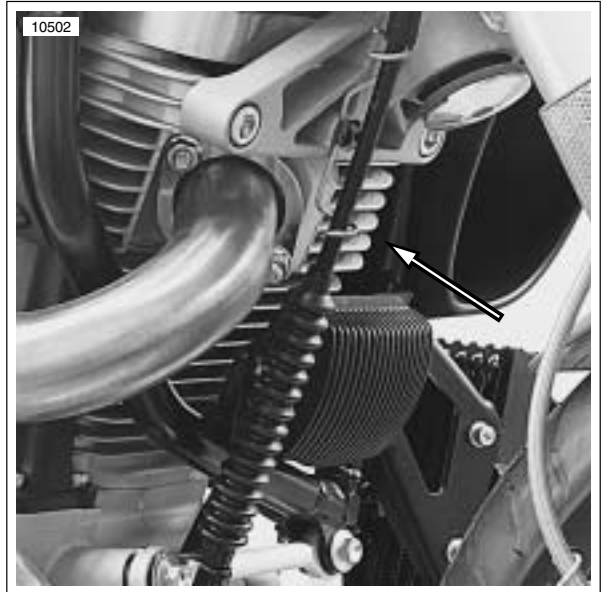

Figure 3-52. Clutch Cable Wire Form Retainer
34. See Figure 3-52. Pull clutch cable back up into the proper position.